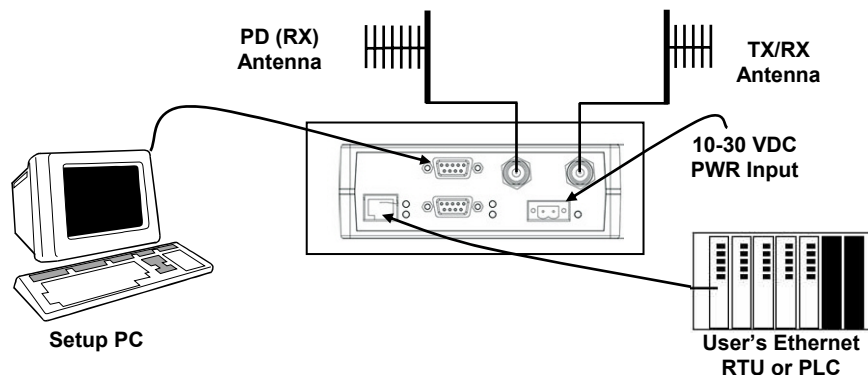
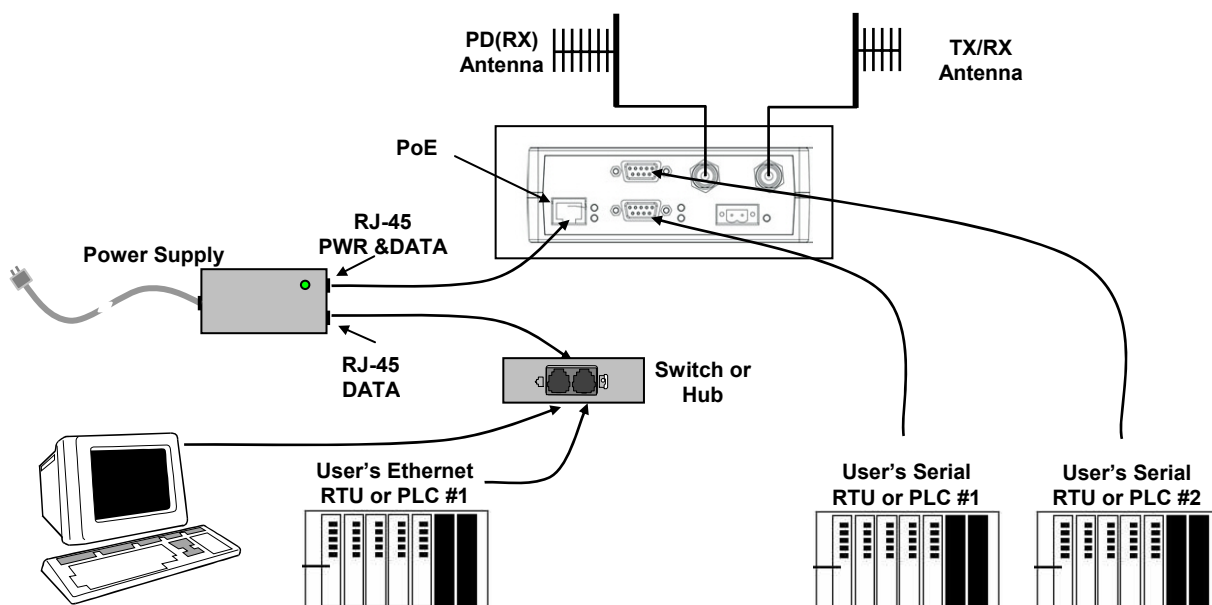

Figure 7 - Basic Setup
Figure 8 - Setup using Switch (or Hub) and PoE power injector
The connections required are shown in Figure 7 and Figure 8 below and on the next page. While serial and/or Ethernet RTU or PLC are shown in the diagrams, master stations often use a PC running an application designed to communicate with remote RTUs or PLCs, or intelligent controllers.
Figure 7 shows a common connection scenario. The TX/RX antenna is required for basic operation. The power connection allows for a wide range of input DC power, whether the user system is a nominal 12 or 24 VDC supply system. A setup PC can be connected via the serial port, allowing for setup and configuration of the HiPR-900 as well as local and remote diagnostics. It may be left connected at all times but is not required for normal operation once the unit has been configured. *The Ethernet port allows end users Ethernet-capable RTU or PLC to be connected.*
Figure 8 shows the various connection opportunities for the HiPR-900 radio modem. The TX/RX antenna is required for basic operation. The second RX (PD) antenna (*exclusive to the full-featured HiPR-900 ver-*